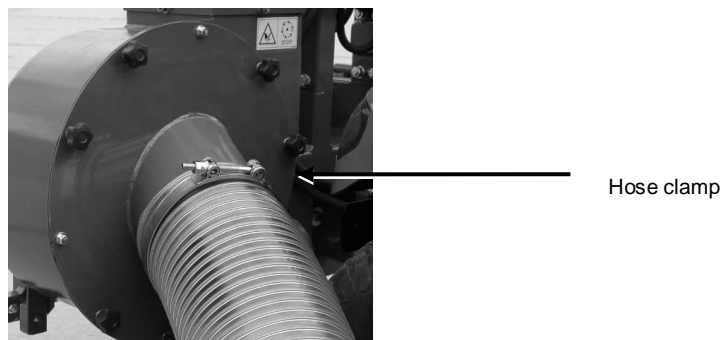

Fig. 48: Suction hose on the turbine cover
6. Disconnect the suction hose from the connector on the CS by loosening the appropriate hose clamp (see Fig. 48).